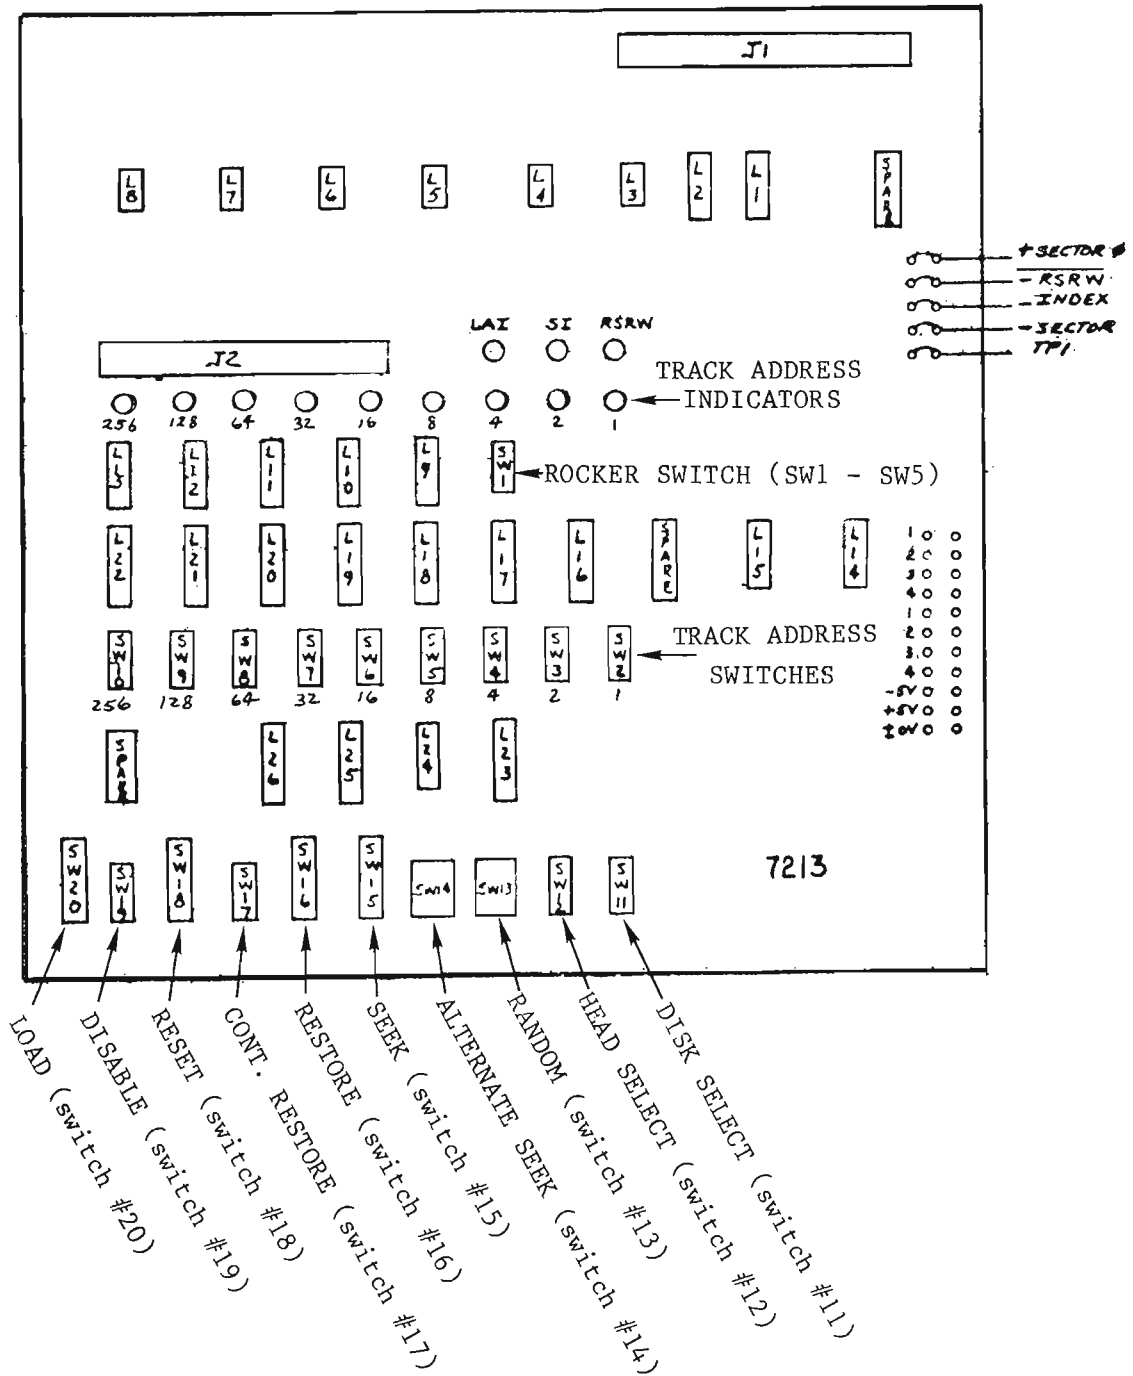

FIGURE 1 7213 DISK EXERCISER (LATEST REVISION)
4. RND - RANDOM TRACK GENERATOR (switch #13 in Figure 1) - When ON, a random track pattern is generated; when OFF, the random track generator is off.
5. ALTERNATE SEEK (switch #14 in Figure 1) - When ON, the head positioner will continuously seek between two addresses: the address set on switches TK1 through TK256, and the address loaded in the multiplexer of the exerciser board (by a LOAD operation).
6. SEEK (switch #15 in Figure 1) - Pressing this momentary contact switch will move the heads to the address set on switches TK1 through TK256.
7. RST - RESTORE (switch #16 in Figure 1) - Pressing this momentary contact switch will position the heads at track zero.
8. CONT. RST (switch #17 in Figure 1) - When ON, the heads are repeatedly positioned to track zero.
9. RESET (switch #18 in Figure 1) - This momentary contact switch resets the exerciser.
10. DISP - DISABLE (switch #19 in Figure 1) - When ON, the track address is disabled. The head will remain positioned wherever it is when the DISP switch is turned on.
11. LOAD (switch #20 in Figure 1) - This momentary contact switch loads the track address (selected by switches TK1 through TK256) into the multiplexer of the exerciser.
12. UNIT SELECT (switch #1 in Figure 1) - This 5-bank rocker switch has the following functions: